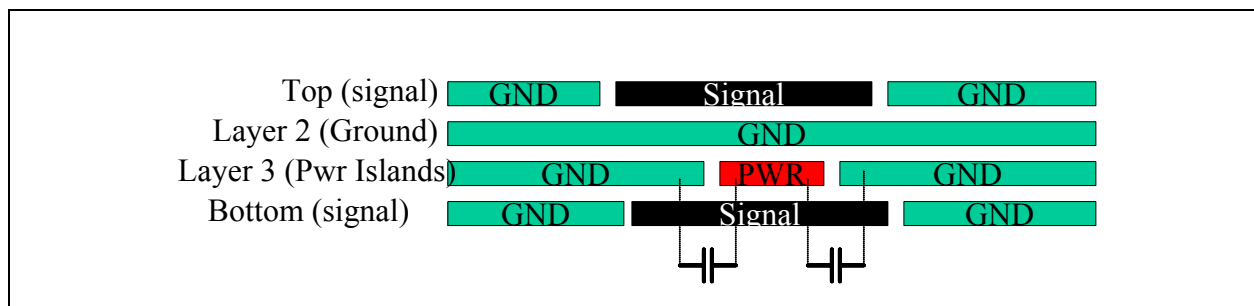

Figure 2.1 4 Layer Stackup Power and Ground Decoupling
- When signal traces are re-referenced to power island planes, decoupling capacitors (0.01uF ceramic) are required between the ground plane and power plane as shown below in Figure 2.1